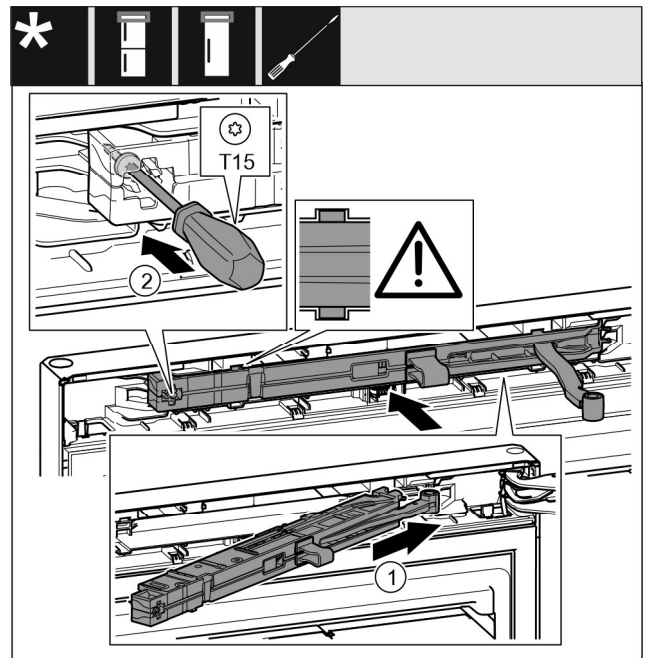

Fig. 48
- ▶ Slide the closing damper unit Fig. 48 (1) on the swap bearing block side up to the stop diagonally into the recess.
- ▶ Tighten the screw Fig. 48 (2) with a screwdriver.